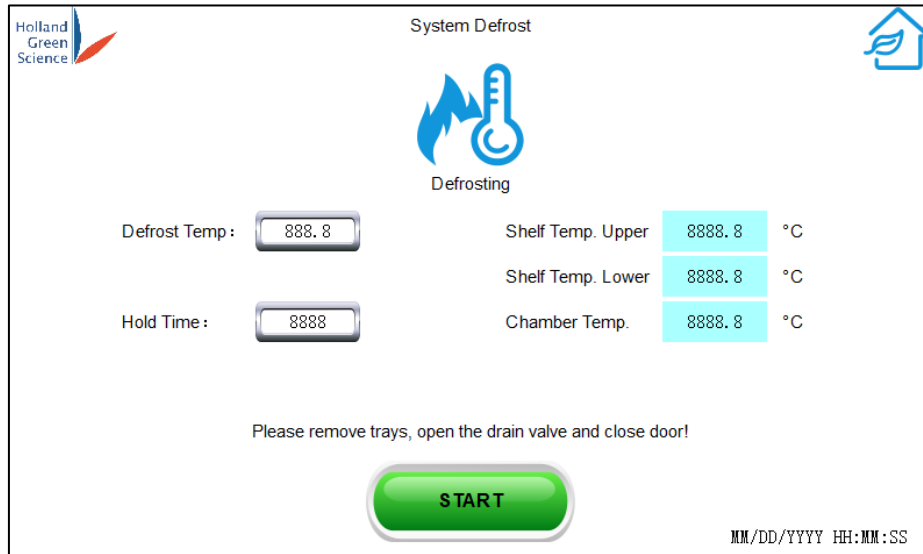

Figure 32
Users may set the defrost temperature and defrost time as desired (Figure 32). For 3 to 4 kg (6.6 to 8.8 lbs) ice, we recommend setting the defrost temperature at 40°C and defrost time at 2 hours. Please adjust the defrost temperature and defrost time according to your applications.
- Click on “START” to start the defrost process. The “System Defrost” page will display the real-time values of the temperature for the lower and upper shelf chamber temperatures (Figure 32).